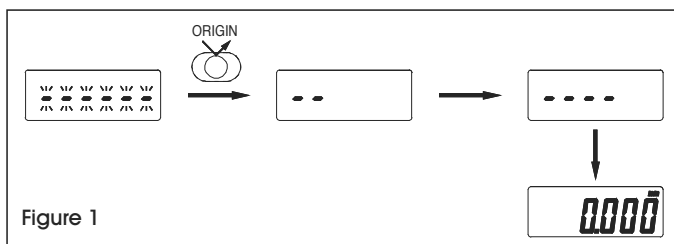

Figure 1
**IMPORTANT!** When the battery has been installed, first press the **ORIGIN** button to zero the micrometer, but do not rotate the thimble while the preset values are being set. (See Figure 1)
**IMPORTANT!** When the battery has been installed, first press the **ORIGIN** button, but do not rotate the thimble while the preset values are being set. (See Figure 1) Rotating the thimble during this time may result in the failure of setting the default settings. Reinstall the battery if you moved the thimble during this time.